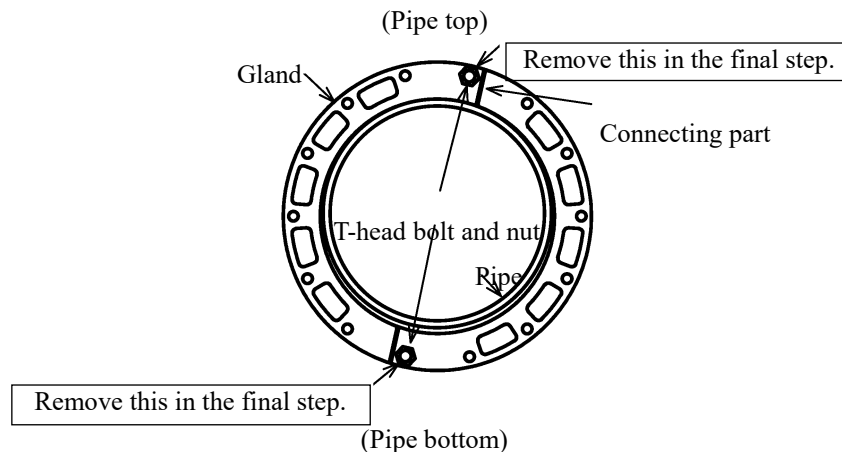

Figure-45 Removing gland (for 20" and 24" pipe)
- 1) For 20" and 24" pipe, holding each part of gland by hand, remove the bolts and the nuts except ones at the connecting part portion of the gland. After that, remove the bolts and the nuts at the connecting part of the gland. (See Figure-45.)